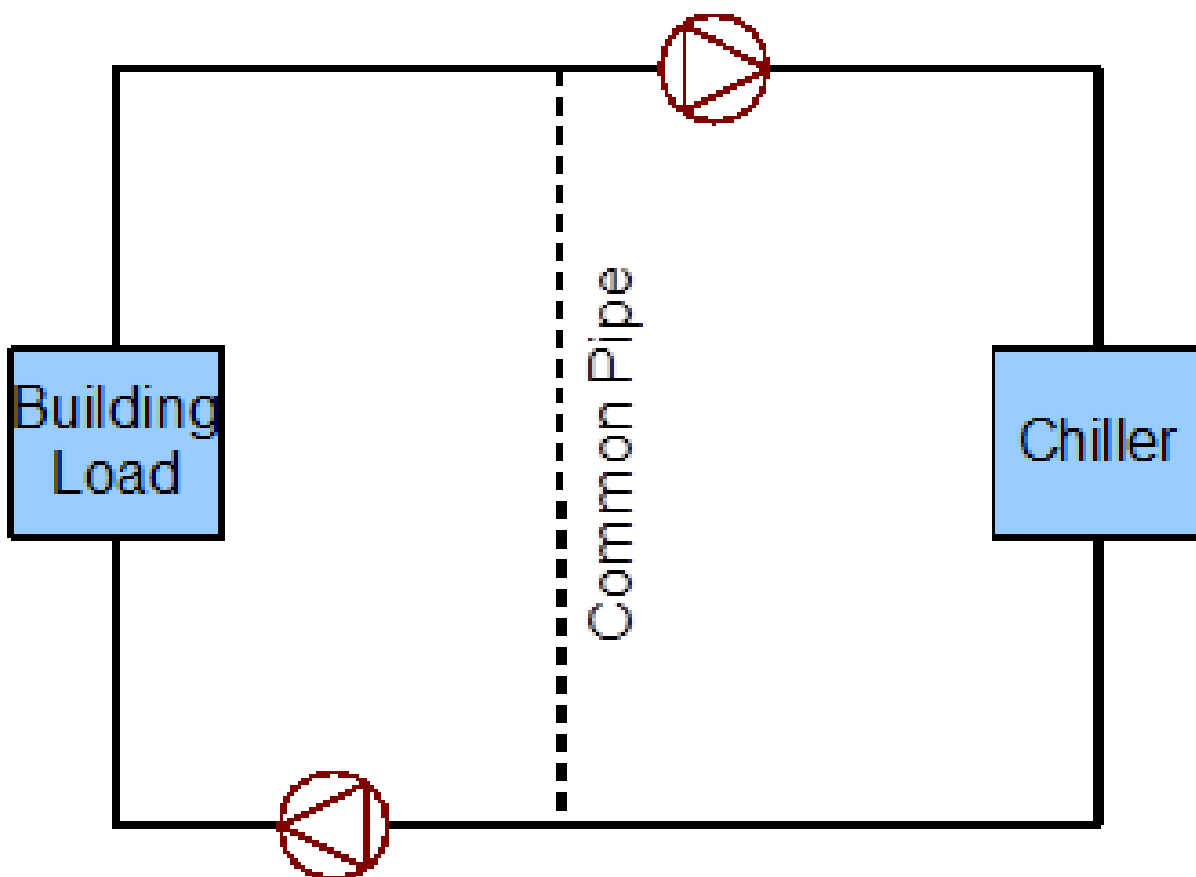

Figure 4.2: Simple line diagram for the example system, (recreated from Reed and Davis 2007)
1. **Obtain a simple engineering line diagram for the system.** This system is a simple cooling system that employs a primary/secondary pumping setup with a one-way common pipe to circulate chilled water through a building. Figure 4.2 shows the simple line diagram for the system.